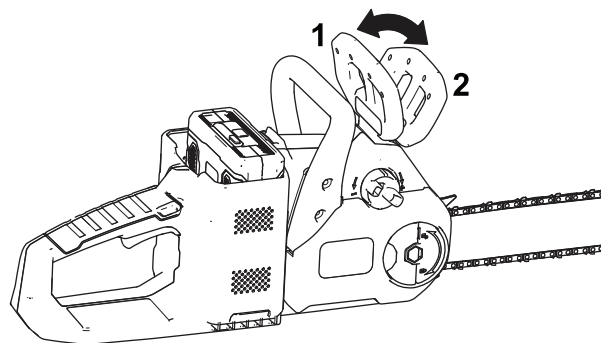

Figure 28
- Engage the chain brake by moving the chain brake forward to the STOP position (Figure 28).
- Disengage the chain brake by moving the chain brake rearward to the OPERATING position (Figure 28).
2. Unfold the wing-nut tab and loosen, but do not remove the wing nut on the cover (Figure 28).